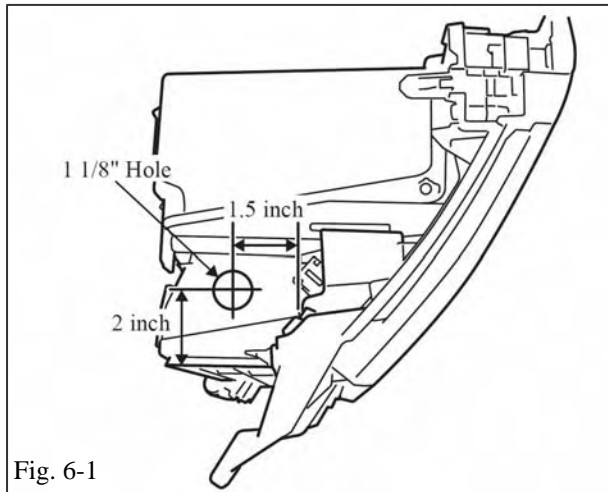

Fig. 6-1
- (a) Make a round hole through which the cable can pass at the location on the glove box shown in the illustration. (Fig. 6-1)
- (1) Hole saw is 1 1/8" (29 mm).
- (2) De-bur drilled hole.
- (3) Clean shavings from glove box after drilling.